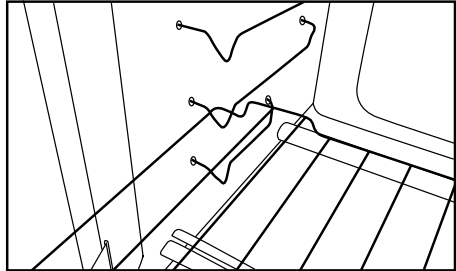

Fig. 3
3. Once past POINT A, lower the wire rack to the horizontal position. The rack can be slide into position (Fig. 3 and 4).